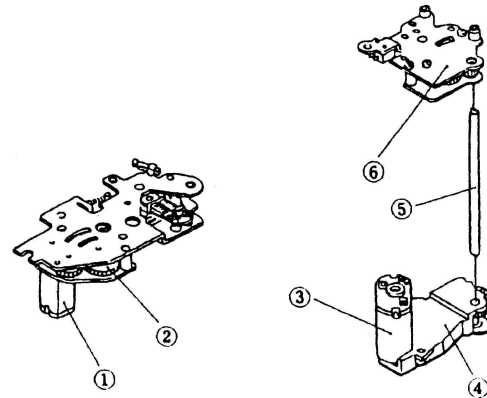

Fig.2 Winding and Rewind Units
Fig.2 shows the structure of the Winding and Rewind Mechanisms. For winding, the dedicated high - performance miniature motor ① incorporated in the spool drives the Winding Spool via the Gear Train ② having a proper reduction ratio.